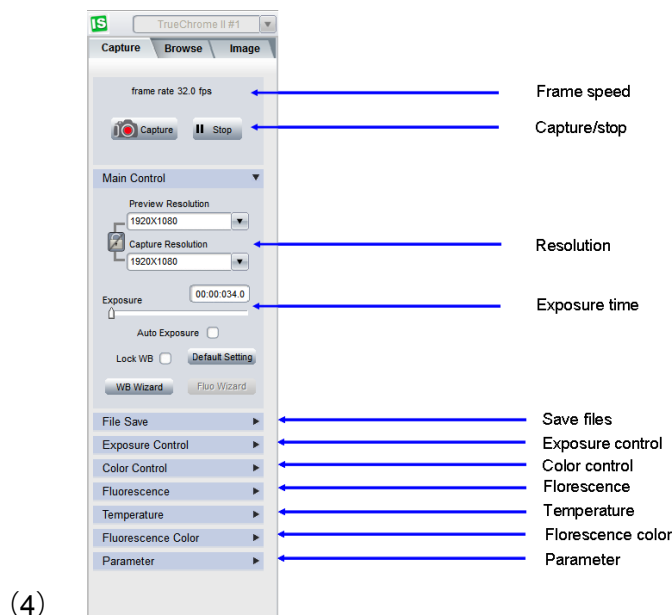

Fig.4-1. The left side of ISCapture
- (1) Start the ISC. The parameter settings are shown on the left side of the software. See Fig.4-1.